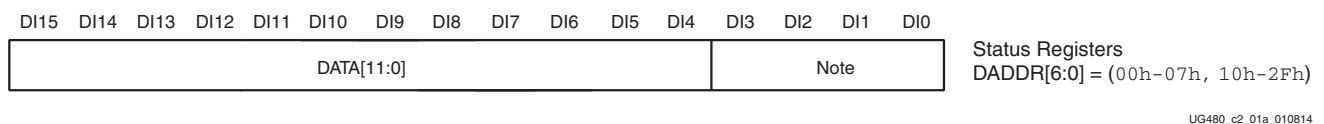

Figure 2-1: Status Registers
**Note:** The ADCs always produce a 16-bit conversion result. The 12-bit data correspond to the 12 MSBs (most significant) in the 16-bit status registers. The unreferenced LSBs can be used to minimize quantization effects or improve resolution through averaging or filtering. See Figure 2-1.